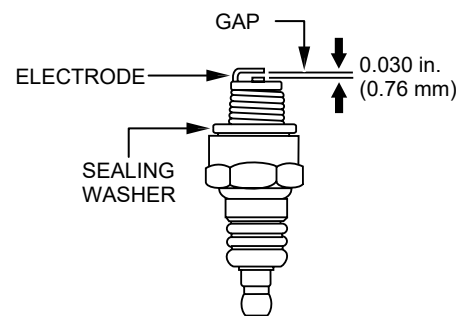

Figure 35. Engine Spark Plug
- Inspect the **spark plugs** (Figure 35). Replace a spark plug if it is damaged or badly fouled, if the **sealing washer** is in poor condition, or if the **electrode** is worn.
- Measure the spark plug **electrode gap** (Figure 35) with a wire-type feeler gauge. If necessary, adjust the gap to 0.030 in. (0.76 mm) by carefully bending the side electrode.